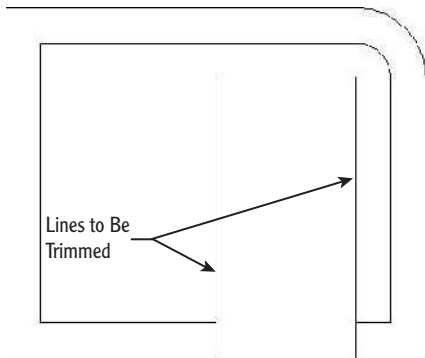
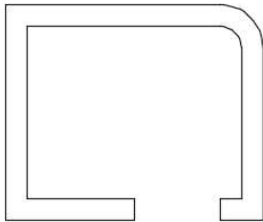

FIGURE 2.35: Lines picked to be trimmed
FIGURE 2.36: The completed trim
3. Pick the two vertical lines that extend above the new opening. Be sure to pick them above the opening (see Figure 2.35). The lines are trimmed away, and the opening is complete. Press ↵ to end the TRIM command (see Figure 2.36).